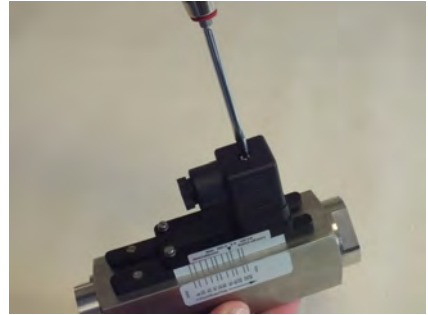

Fig. 53: Loosen female socket
1. ➤ Loosen the fixing screw of the female socket (Fig. 53) with a flat-bladed screwdriver